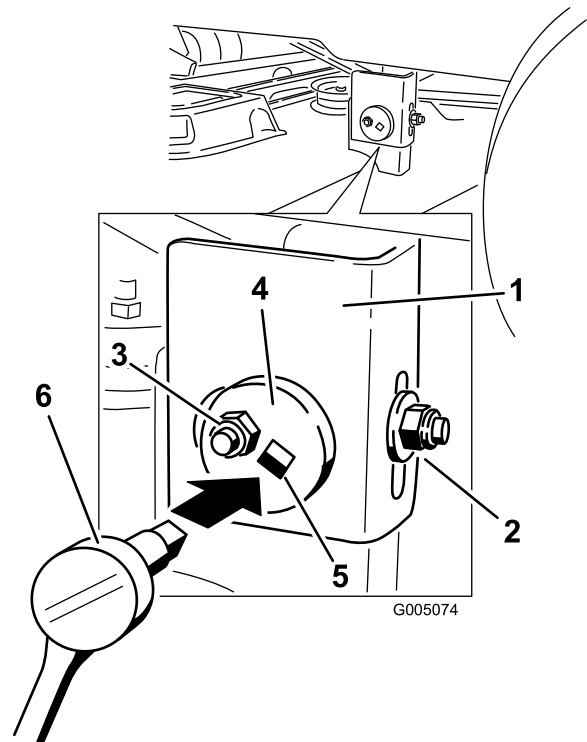

Figure 52
6. Move to the left side of the machine. Loosen, but do not remove, the rear locking nut on the hanger bracket (Figure 52).
7. Loosen the side locking nut on the hanger bracket just enough to allow the eccentric plate to be adjusted (Figure 52). Use a 3/8 inch drive extension on a socket wrench to manipulate the eccentric plate. Use the wrench to reposition the height of the mower deck and adjust to the desired height.
8. Stop the deck at the adjusted position and tighten the side locking nut on the hanger bracket to hold the new position (Figure 52). Tighten the rear locking nut on the hanger bracket.